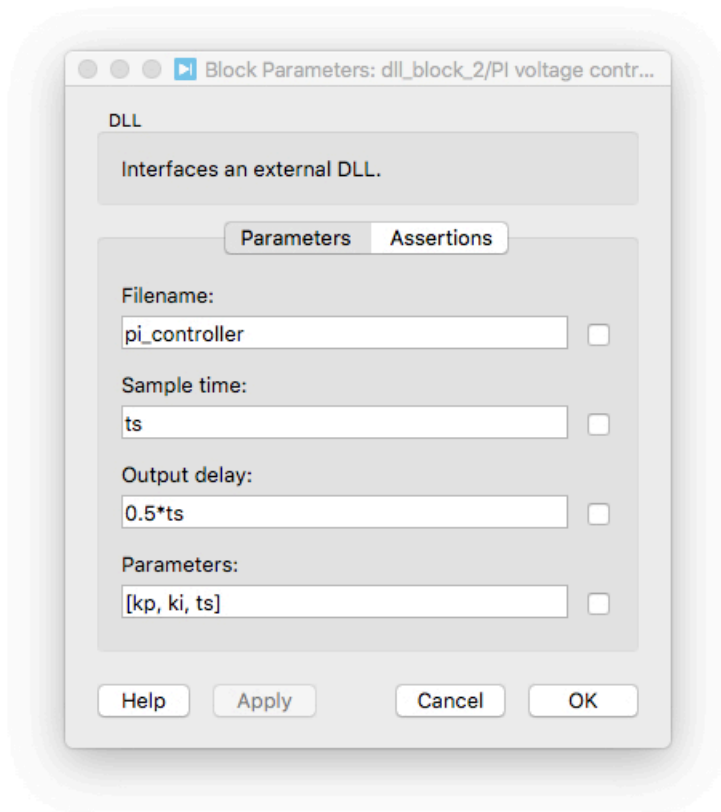

Figure 1: DLL block parameters
- 3 Open the PLECS model, look under the mask of the PI controller **Ctrl + U** and place a PLECS DLL block from the component library under “Control” in the sub-library “Functions & Tables”, between the Signal Input and Output blocks and connect the appropriate terminals. Configure the block with the parameters shown in Fig. 1.